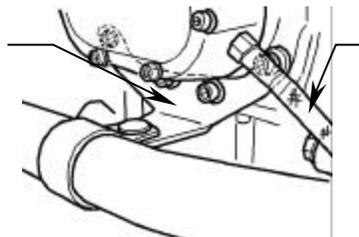

FIGURE 1
5. Place your motorcycle on the sidestand. Remove the front headpipe support bracket by removing the engine oil filler cover and clutch release cover; these must be removed to access the bolts retaining the stock bracket. A small amount of oil may leak out as the cover is removed (If the motorcycles suspension has been lowered or the sidestand modified you may want to drain the engine/transmission oil before removing the covers). Remove the four bolts securing the stock front headpipe support bracket, note which bolts go where if any are longer than the others. Install the supplied support bracket with the stock mounting bolts and tighten to factory specifications, see Figure 1.